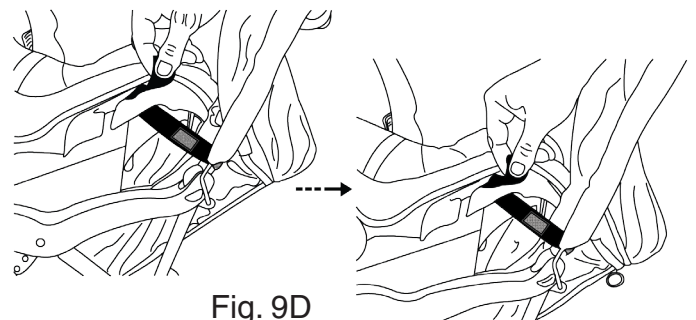

Fig. 9D
17. Final step to secure the footrest side of car seat onto the stroller, use the straps with velcro to secure seat onto stroller. (Fig. 9D). Check that car seat is securely attached by pulling up on the car seat. To remove, undo latches and unlock car seat from child tray.